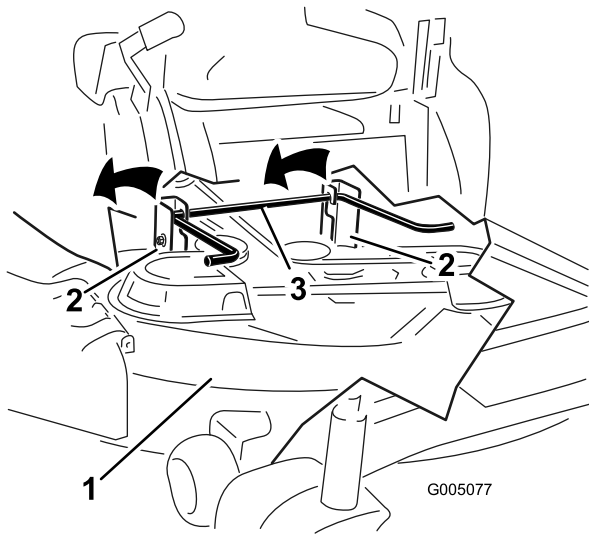

Figure 72
- 1. Deck-lift spring (2)
7. Lift the mower deck and hanger brackets clear of the rear lift rod and lower the mower carefully to the ground (Figure 72).
- 5. Lift the rear of the mower deck and guide the hanger brackets over the rear lift rod (Figure 72).